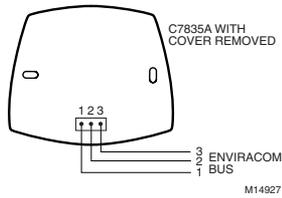

Fig. 4. DATS wiring to Envirocom™ bus.
5. Connect the three DATS terminals, see Fig. 4, using standard thermostat wire, to any convenient Envirocom 1, 2, and 3 terminal connection. Observe that the red heating and green cooling lights come on momentarily.